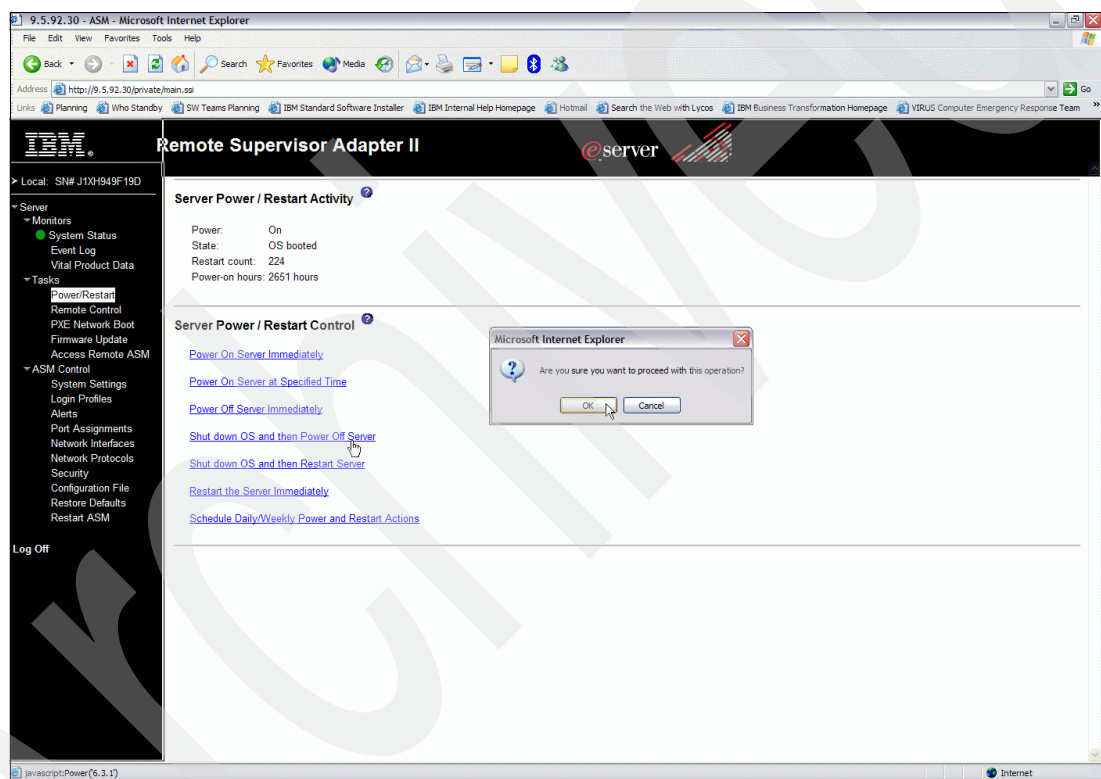

Figure 6-88 Power/Restart on RSAII
3. The **Power/Restart** window appears. On this window, you can select several Power functions. Select **Shut Down OS and then Power Off Server** to shut down the operating system first and then power off the xSeries. First a question asks, “Are you sure you want to proceed with this operation”? See Figure 6-88. Select **OK**.